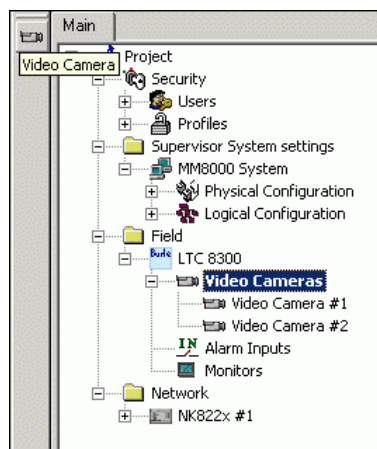

Fig 28 Adding cameras to Philips/Burle switcher
2. Select the sub-nodes cameras and add the video camera nodes (→ see Fig 28).